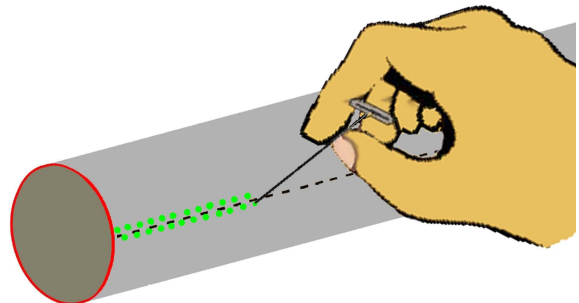

Figure 1
- **Step 9** Using a large modeler's "T" pin, punch a series of holes about 1/32" on either side of the long axis line, in a zig-zag pattern, between the circumferential lines at either end of the tube. Refer to Fig. 1 to understand the idea.
- **Step 43** Referring back to Fig. 1, in the same manner as you did for the fin tip pod tubes, use a large “T” pin to punch a series of holes along the fin alignment lines between the rear edge of the tube and the line drawn at 4”, about 3/32” apart. This will actually help strengthen the attachment of the fin later. Apply a thin layer of glue to the four main fin alignment lines, forcing some glue into the pin holes. Allow these to dry about 20 minutes. This forms the foundation layers for what is known as a “double-glue joint”.